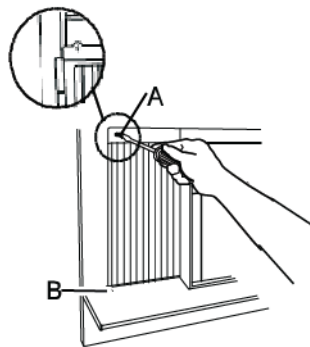

Figure 2
4. Trim the weather seal with a proper length peel off protective backing and plug any gaps if needed as shown in Figure 2.